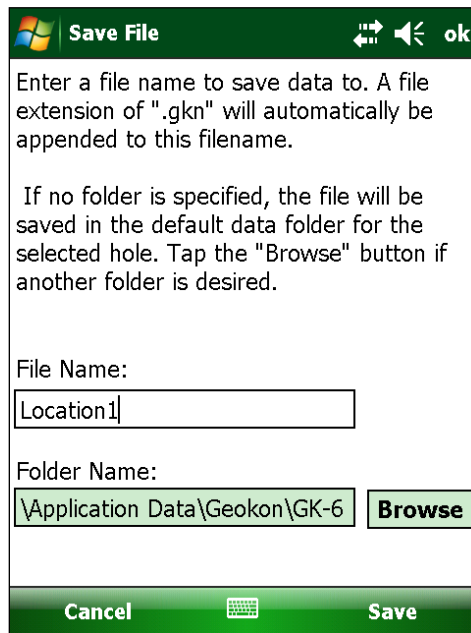

Figure 16 - Save File Dialog
- 14) Tap the “Yes” button to start the data saving process. The “Save File” dialog (Figure 16) will be displayed, allowing the user to name the data file to save.
- 17) Tapping “No” at the “File exists” dialog will again call up the “Save File” dialog (see Figure 16) and another opportunity will be given to select a new file.